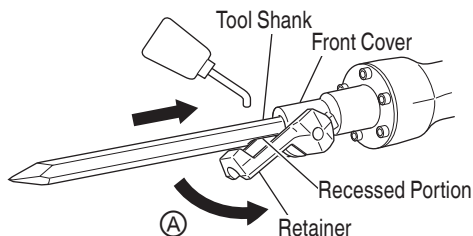

Fig. 5
- (1) Clean, then smear the accessory shank portion with grease or machine oil.
- (2) Move the retainer to position ①. Align the accessory shank portion so that its recessed portion is under clamp and seat the accessory such as a bull point, a cutter, etc., in the hexagonal hole in the front cover (See Fig. 5).